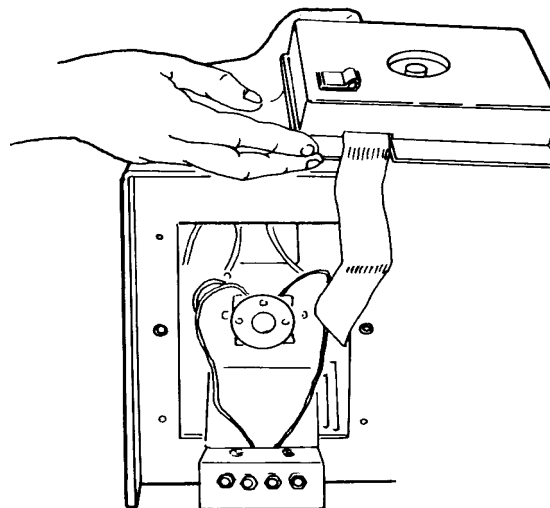

Figure 5-4 Positioning the Pre-amp Module
6. Place the pre-amp module with the photodiode facing upward on top of the detector (see Figure 5-4).
Figure 5-4 illustrates the Pre-amp Module positioning.